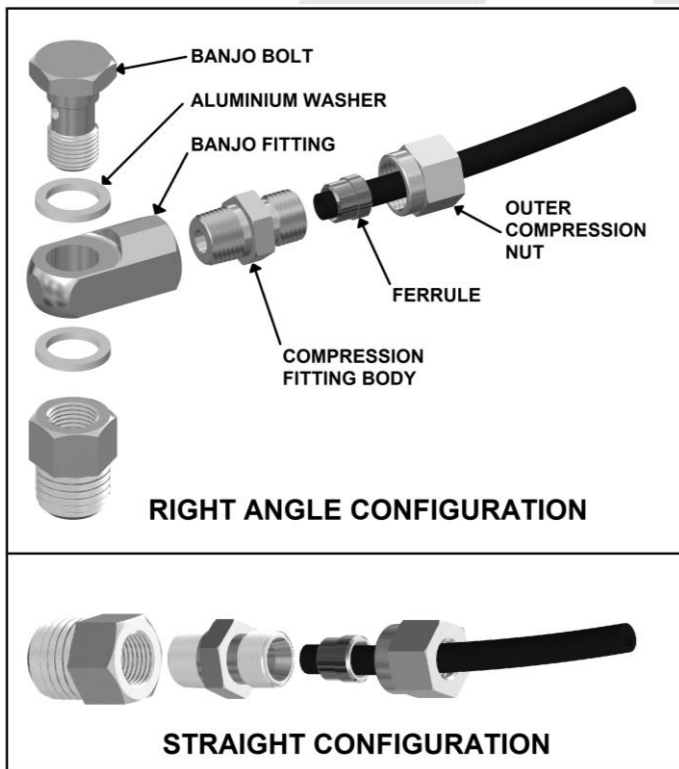

Figure 28.
- Assemble an aluminium washer onto the banjo bolt and insert through the banjo fitting. Assemble second aluminium washer and tighten into bulkhead fitting using a 14mm [9/16"] spanner. (Fig.28.)
NOTE : When right angle routing of the tube is not required, screw the compression fitting body straight into the bulkhead fitting body (Fig.28.).